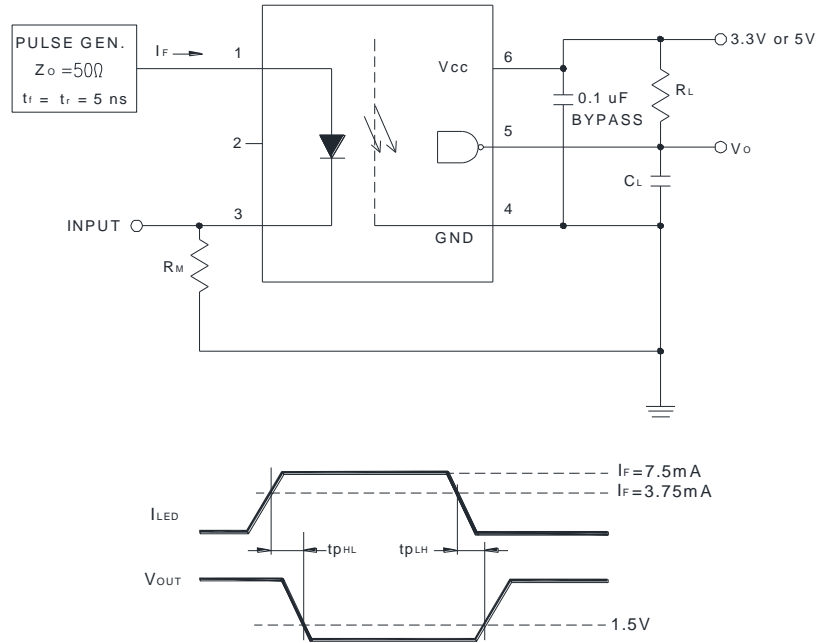

Figure 1: Test Circuit for t_{pHL} and t_{pLH}
1. A 0.1 μF or bigger bypass capacitor for V_{CC} is needed as shown in Fig.1